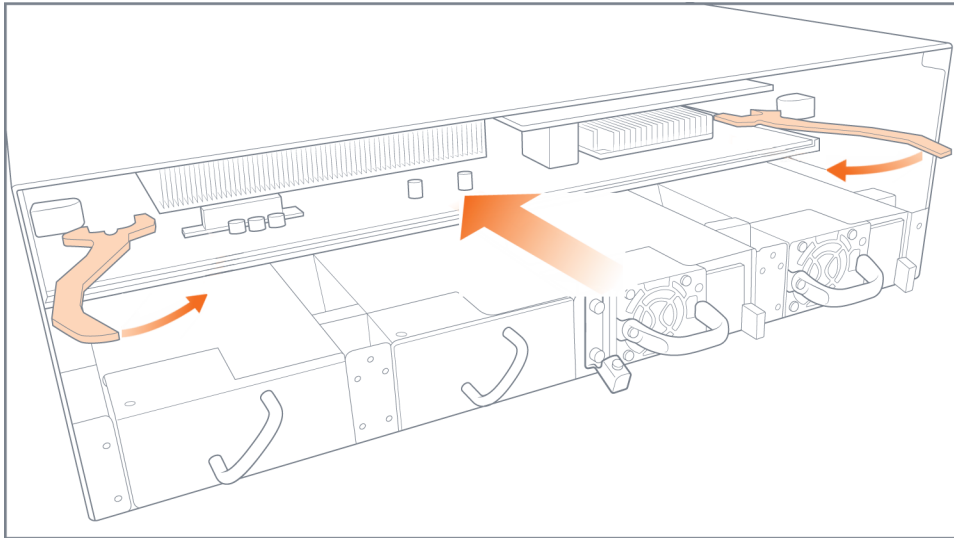

Figure 21 Control Card Ejector Handles
2. Swing both ejector handles inward as shown in Figure 21 Control Card Ejector Handles.